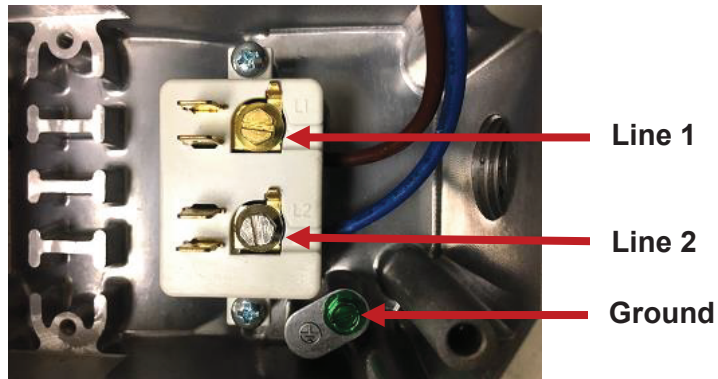

Figure 3 – AC Input Terminal Block
7. Install the **AC** and **Ground** input wires as specified on the motor nameplate. You must connect **Line 1**, **Line 2**, and **Ground** (⊖ Green Screw) in the wiring compartment correctly and securely (Figure 3).